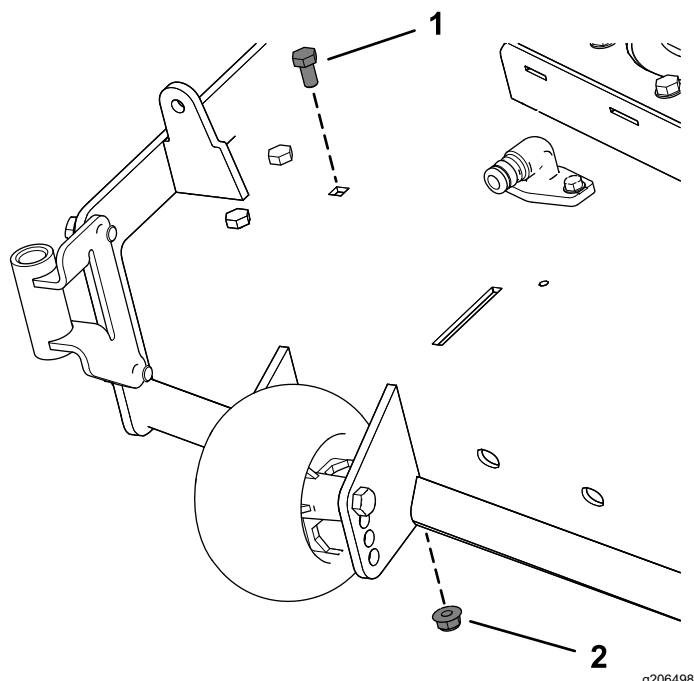

Figure 9
2. Remove the existing bolt and nut from the mower deck (Figure 9).
For 54-inch mower deck, remove the bolt and nut as shown in Figure 9.